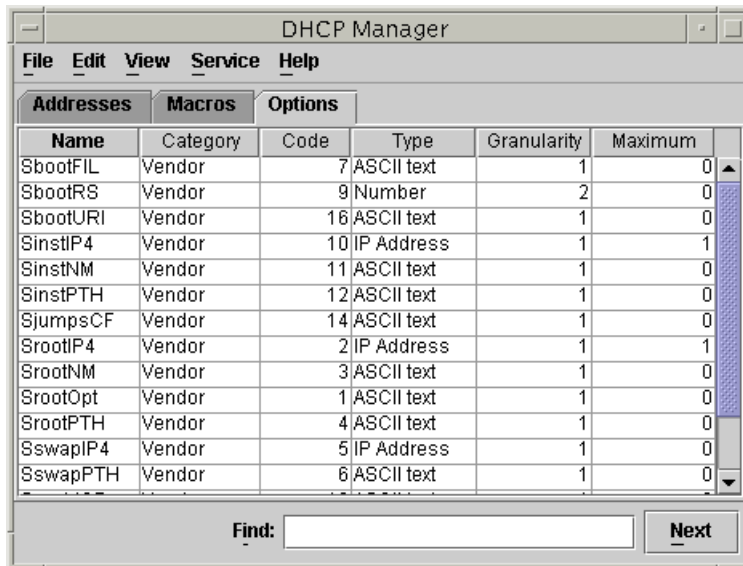

FIGURE 10-1 The DHCP Manager 'Options' Tab
- a. Find out which option names are already defined in the DHCP server by clicking the Options tab in the DHCP Manager's main window (see FIGURE 10-1).